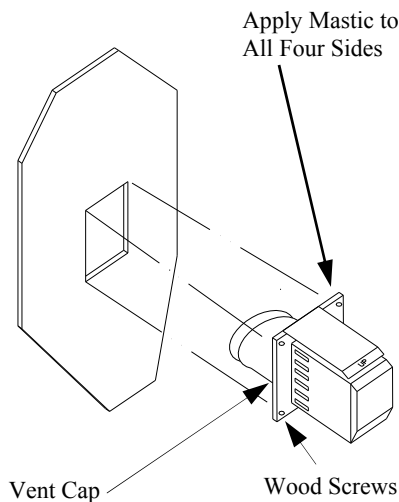

Figure 22— Installing Horizontal Vent Cap
4. Apply a bead of non-hardening mastic around the outside edge of the vent cap. Position the vent cap in the center of the 7 1/2" or 10" hole on the exterior wall with the "up" on the vent cap facing up. Ensure proper clearance of 1" to combustibles is maintained. Attach the vent cap with four wood screws supplied (see Figure 22). **Note:** Replace the wood screws with appropriate fasteners for stucco, brick, concrete, or other types of siding.